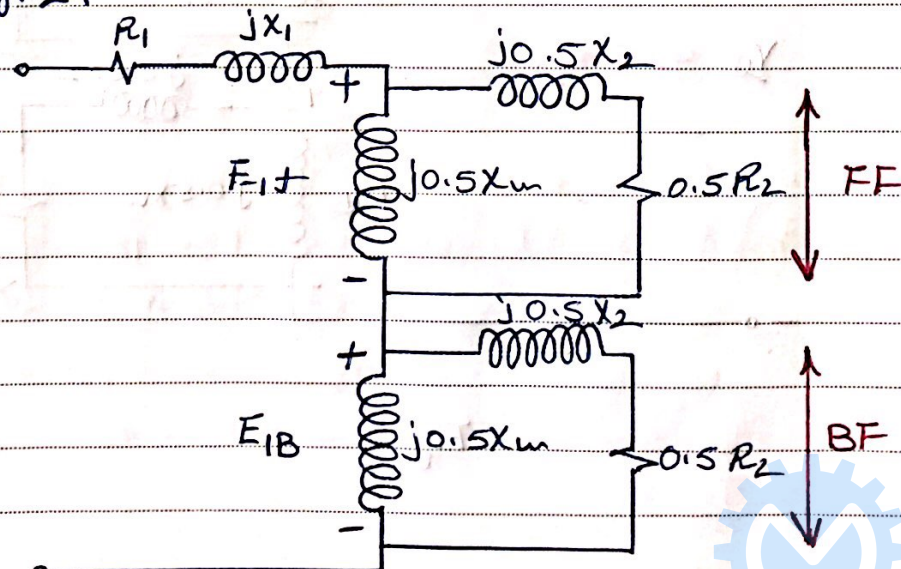

Fig. 2
* Hence Fig. 1 is modified as follows as shown in Fig. 2:
\therefore Fig. 2 to be modified by introducing slip.